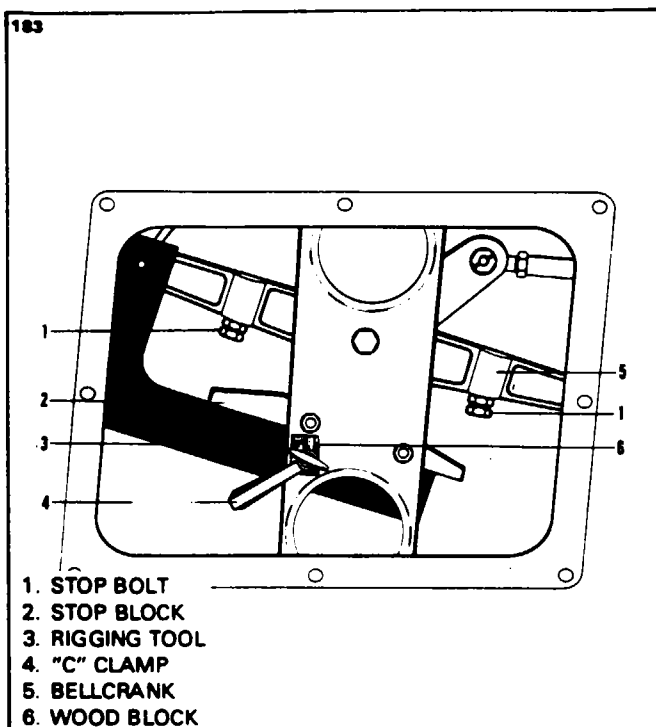

Figure 27-8. Installation of Bellcrank Rigging Tool
1. To rig the aileron controls, set the right and left aileron bellcranks in neutral position by attaching an aligning tool within both wings as shown in Figure 27-8. (This tool may be fabricated from dimensions given in Chapter 95.) The tool is used by the following procedure: